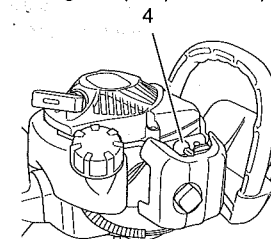

Fig. 4
- * Push priming pump (4) several times so that fuel flows through the pump or return pipe. (Fig. 4)